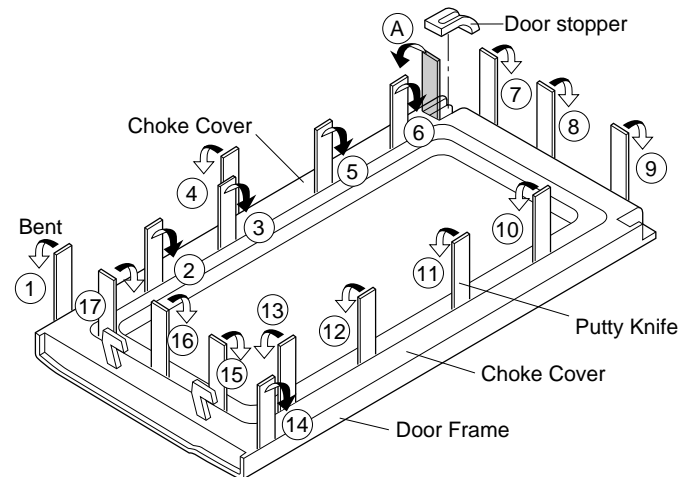

Figure C-3. Door Disassembly
- Insert a putty knife (thickness of about 0.5mm) into the gap (A) between the door stopper and the choke cover as shown in Figure C-3 to free engaging parts.
2. Insert an putty knife (thickness of about 0.5mm) into the gap between the choke cover and door panel and between the choke cover and the door frame as shown Figure C-3 to free engaging parts.
3. Try the principles of the lever and lift up the choke cover by inserting a putty knife in order shown in Figure C-3.